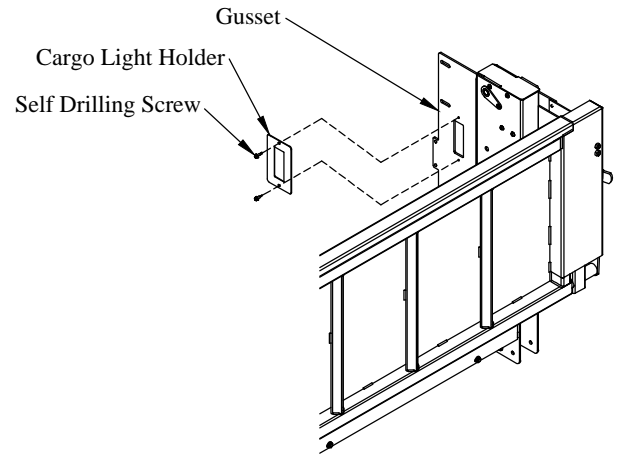

Figure 15: Cargo light new location.
14. **Install** a cargo light holder onto each gusset using the self-drilling screws (Figure 15).